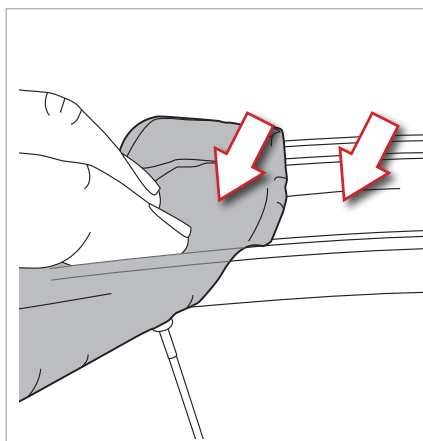

Fig.2
- Using a cloth and some isopropyl alcohol, clean and degrease the wheel rim thoroughly, cleaning along the entire inner well and the inner walls of the rim, which will be in contact with the tyre beads (Fig. 2).